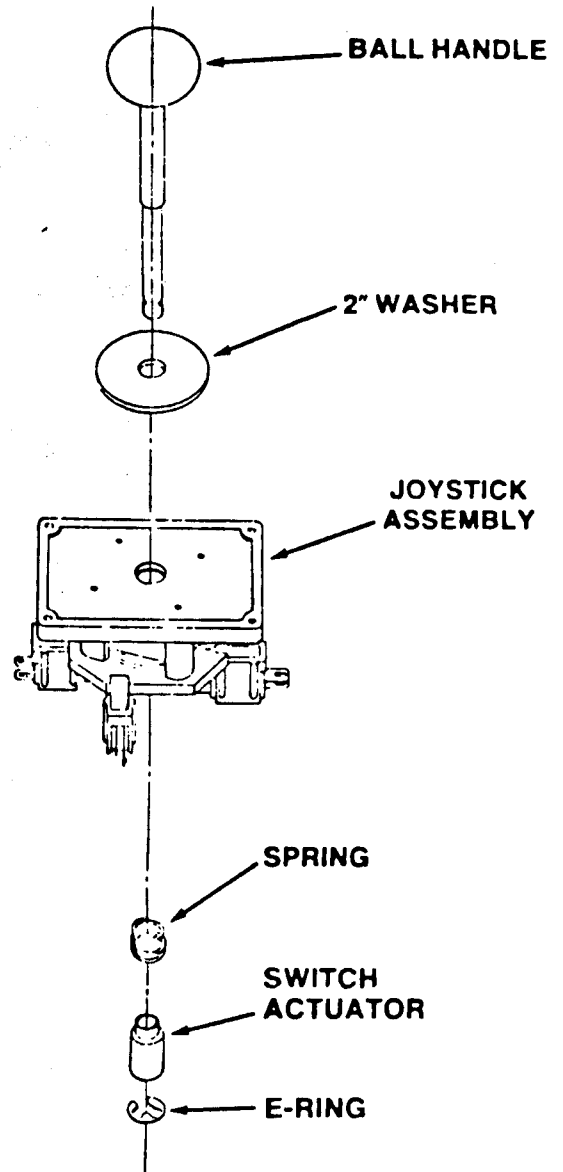

FIGURE 1
1. Refer to FIG. 1 before starting installation.